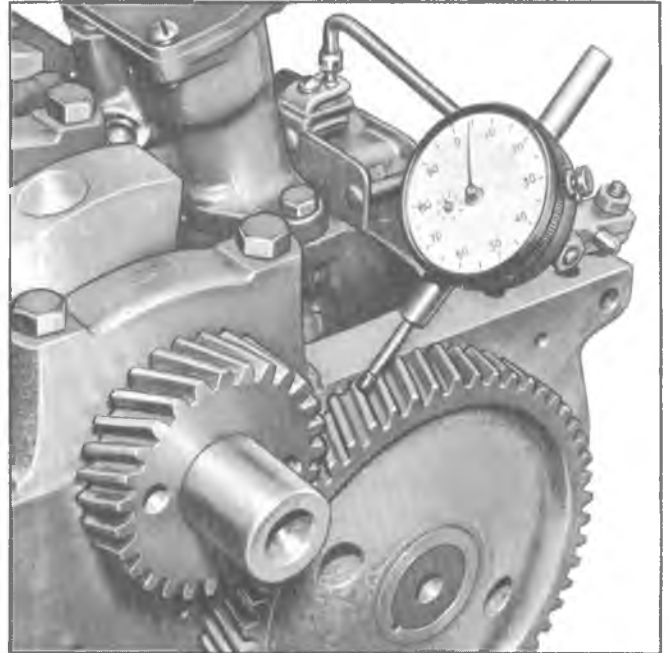

Fig. 18L—Checking Timing Gear Backlash
5. Check the backlash between the timing gear teeth with a dial indicator (fig. 18L). The backlash should be not less than .004" nor more than .006".